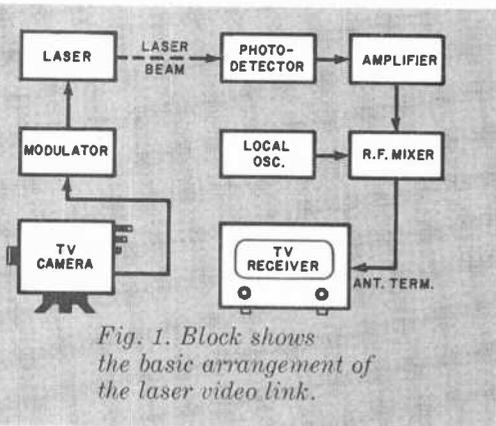

Fig. 1. Block shows the basic arrangement of the laser video link.
**Overall System.** The block diagram of the overall laser TV system is shown in Fig. 1. The video (or audio, not both simultaneously) output signal from the TV camera is typically on the order of 1 volt peak-to-peak. This signal is fed to the laser modulator, which is designed to provide a gain of 2 mA/volt. Hence, the 1-volt p-p video output signal from the camera, after passing through the modulator, is converted to a 2-mA p-p signal that current-drives the laser tube.